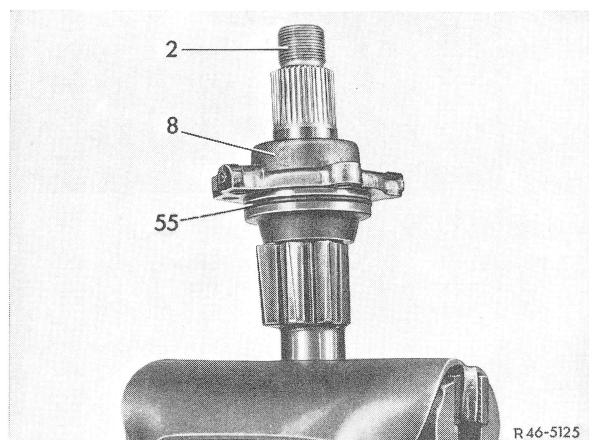

Fig. 33
33 Place housing cover (8) on pitman shaft (2), then insert pitman shaft into steering housing. Make sure that the center tooth of the pitman shaft enters the center tooth gap of the working piston and that the O-rings are correctly seated (Fig. 33 and 34).